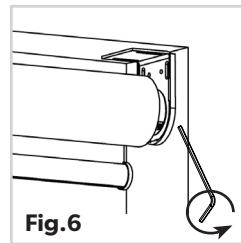

Fig.6
9. Lastly, before using your shade, you'll need to engage the spring mechanism. To do so, remove the set screw on the right side by using the Allen wrench and turning it counterclockwise until it is fully removed from the drum. You will feel the spring engage as it will want to retract the shade. (Fig.6)